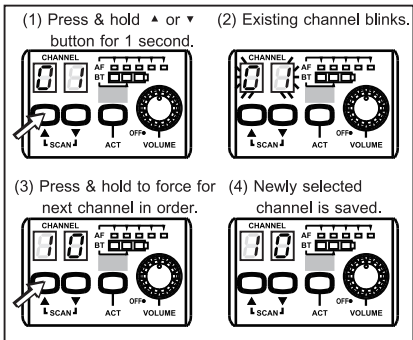

Fig. 5
- (B) MRM-24: Press and hold up or down SCAN button ⑨ to perform a manual channel search. Existing channel ⑥ blinks to denote it is ready to accept parameter changes. During blinking, press and hold Channel button to force the channel to go forward to the next channel in order. Release Channel button until a desired channel is located. This new channel is now saved. If Channel button is not pressed within six blinks, it stops blinking and reverts back to the existing channel. Fig. 5